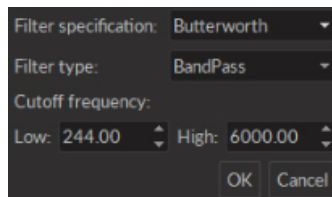

Figure 4.20: *Filters Window*
- The **Filter** function opens the **Filter** (Fig. 4.20) window uses a butterworth filter to remove unwanted frequencies from the data. These filters can be **Bandpass**, **Bandstop**, **Low-pass** or **High-pass**.